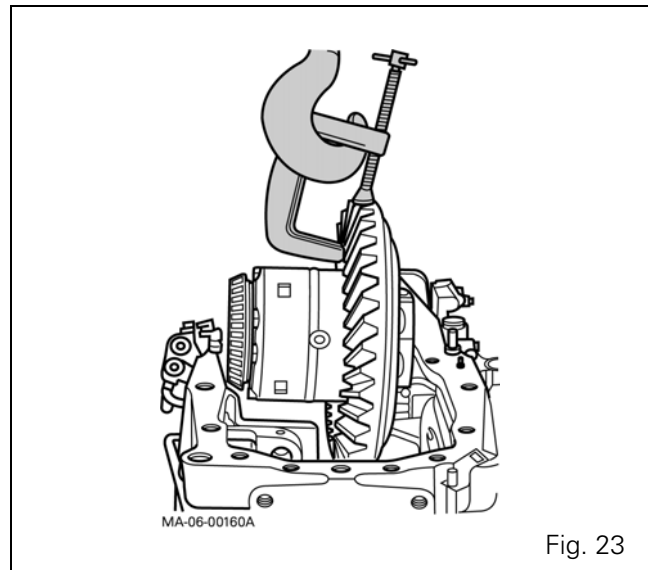

Fig. 23
85. Carefully place the differential assembly in the housing (Fig. 23).